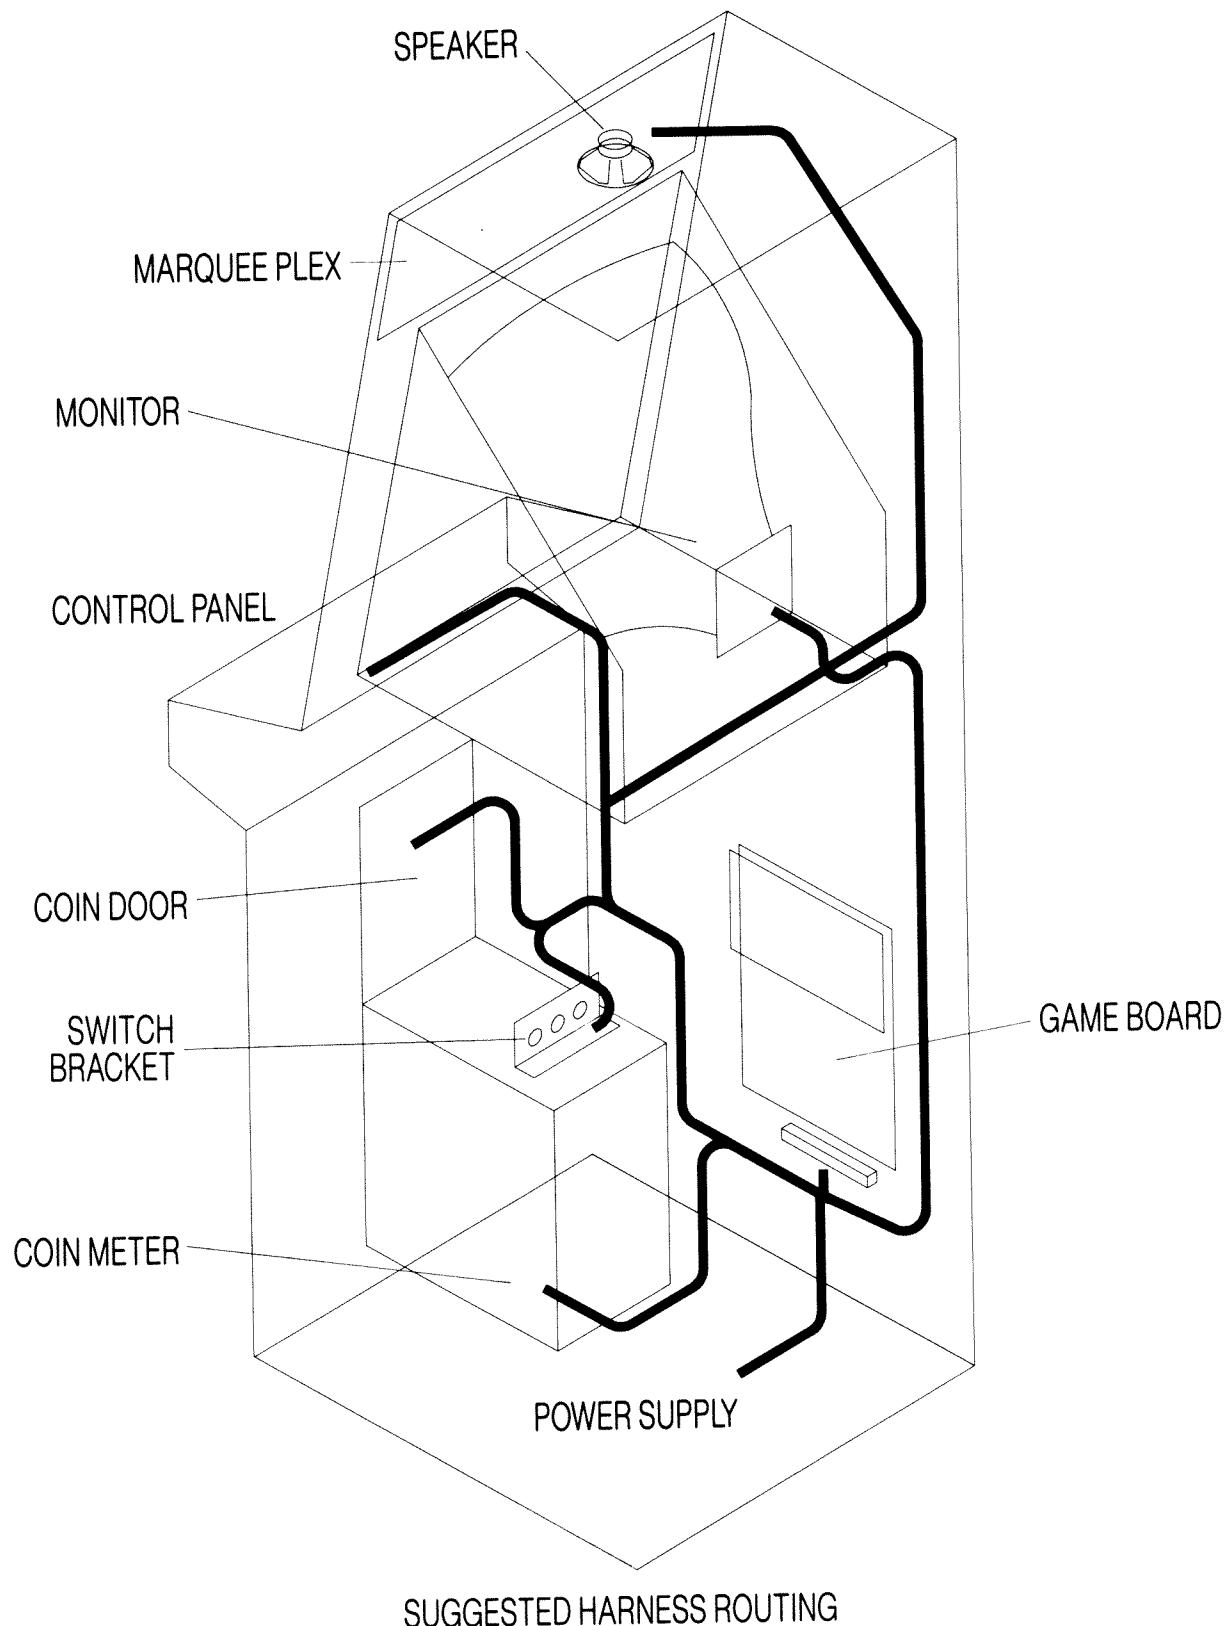

Figure 5
34. Locate the ALTERED BEAST GAME PCB (834-4696) and install the logic PCB inside the cabinet (see figure 5). Use (4 ea) #6 x 3/4 P/H PHIL "AB" SMS (0002-0001) to secure the PCB through its' mounting feet.